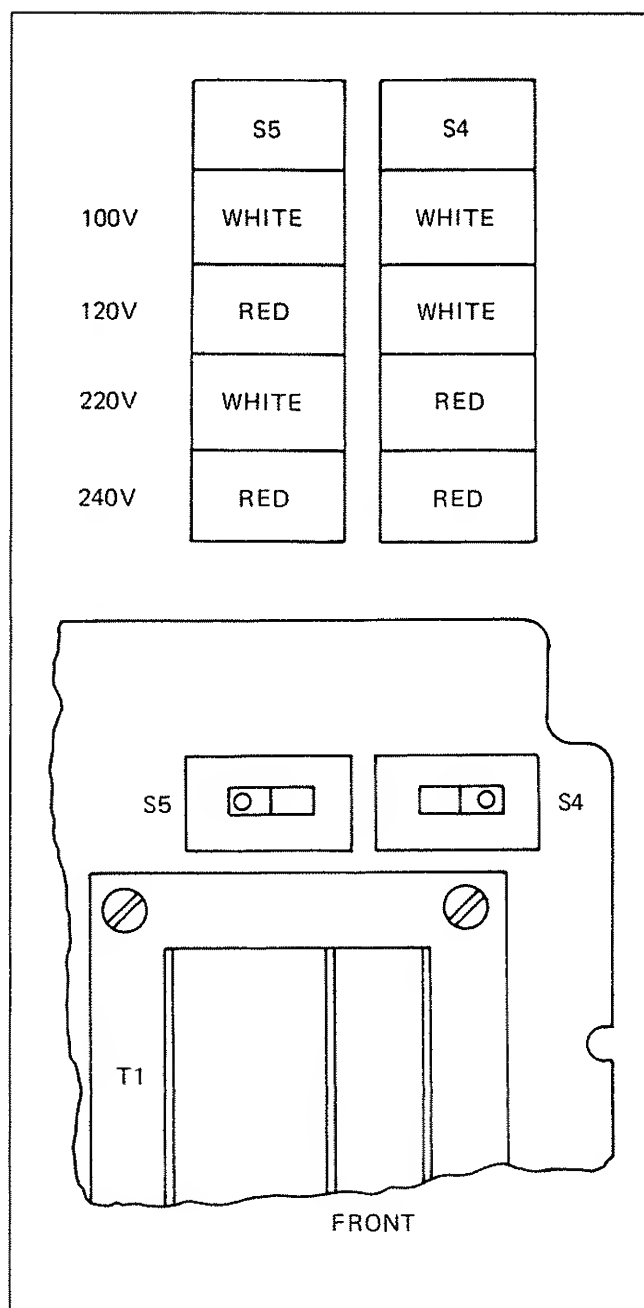

Figure 4-7. Line Voltage Selection
4-39. Use the following procedure to adjust the regulated +5V power supply, to check the regulated +5V, +12V, and -12V power supplies, and to adjust and check the Channel B 6.8V tracking regulator. This procedure should be followed after replacement or repair of the power supply. Line voltage selection of 100V, 120V, 220V, or 240V is provided by switches S4 and S5. S4 and S5 are located on the right rear of the Main PCB, and their position is indicated by a red or white dot. Line voltage selection and the corresponding switch configuration is illustrated in Figure 4-7.
5. Refer to the voltage selection guide in Figure 4-7 and position S4 and S5 to select the line voltage at which the 7220A is to be operated.